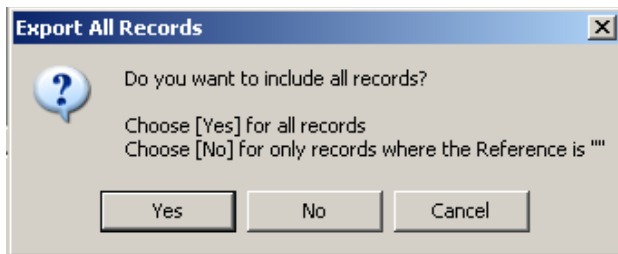

Figure 41: Select Yes or No
6. Select either **Yes** or **No** when asked if you want to include all records (Figure 41).